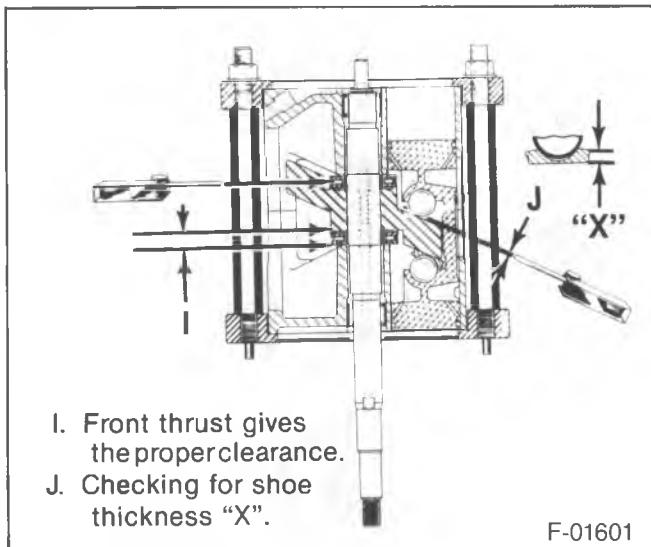

Figure 35—Checking the Piston and Shaft End Play
- An alternate method is to use J 9661-01 in selecting a suitable feeler gage leaf until the result is a 1.1 N to 2.2 N (4 to 8 ounces) pull on the scale between the rear thrust bearing and upper (or outer rear) thrust race (figure 35). If the pull is just less than 1.1 N (4 ounces), add 0.013 mm (0.0005-inch) to the thickness of the feeler stock used to measure the clearance. If the pull on the scale reads just over 2.2 N (8 ounces), then subtract 0.013 mm (0.0005-inch) from the thickness of the feeler stock.